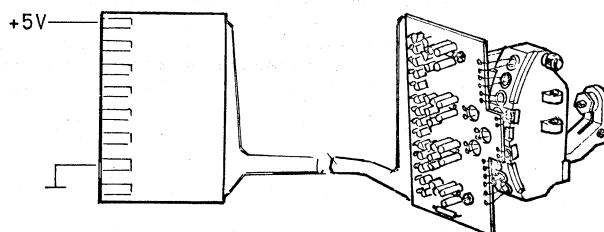

Fig 36
- 2 With the read unit removed from the reader, connect it to a DC supply. See Fig 36.